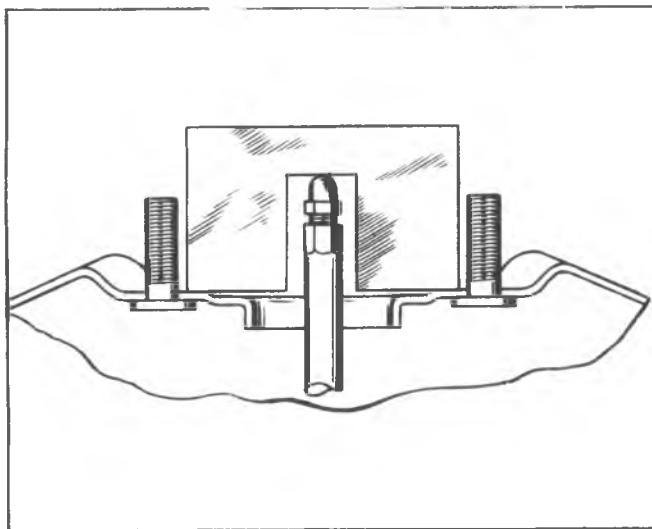

Fig. 14A - Adjustment of Piston Rod
2. **Deep Socket Master Cylinder Primary Piston** - Place Tool J-7723-01 over the piston rod so that it fits between the studs on front housing. Gauge should be parallel to studs resting on surface of housing. The cutout portion of the gauge should never be lower than the end of the piston rod, and the gap should never be more than .010 inch (fig. 14A).